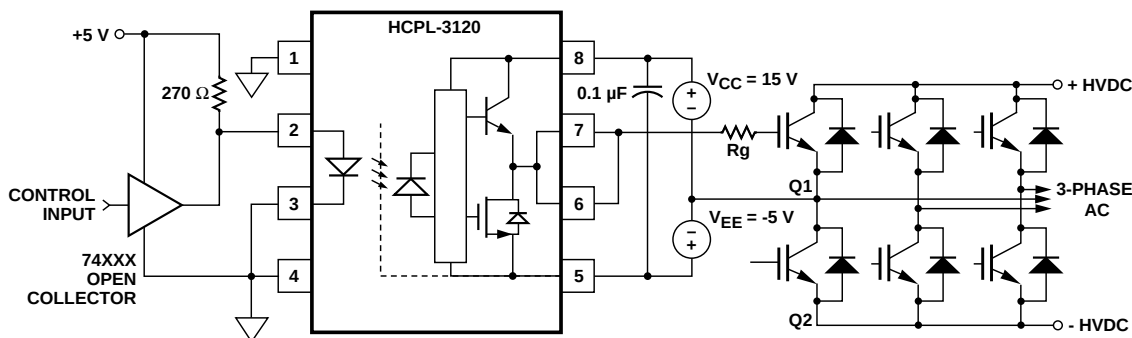

Figure 26. HCPL-3120 Typical Application Circuit with Negative IGBT Gate Drive.
Step 1: Calculate R_g Minimum from the I_{OL} Peak Specification. The IGBT and R_g in Figure 26 can be analyzed as a simple RC circuit with a voltage supplied by the HCPL-3120.
For the circuit in Figure 26 with I_F (worst case) = 16 mA, R_g = 8 Ω, Max Duty Cycle = 80%, Q_g = 500 nC, f = 20 kHz and T_A max = 85°C: